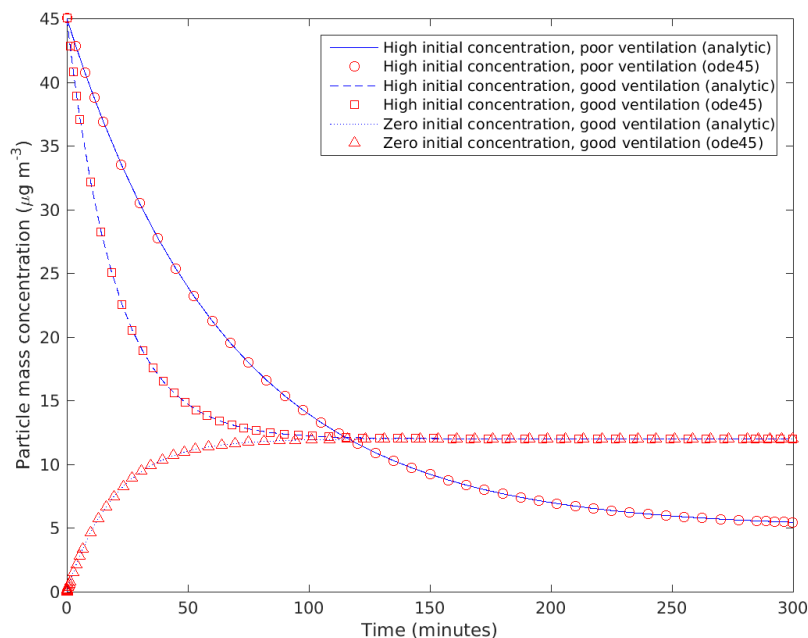

Figure 5: Figure created by the test cases of Problem 2.1 (plus a legend box).
You can test your function using the following test cases, which should produce a figure similar to Figure 5. In these test cases, we consider a 20 m^2 ($\approx 215 \text{ ft}^2$) studio with a 2.5 m ($\approx 8.2 \text{ ft}$) ceiling height, which is not ventilated very well ($Q = 0.25 \text{ m}^3 \text{ min}^{-1}$). We set the value of C_{vent} to $15 \mu\text{g m}^{-3}$. We set the initial particle mass concentration inside the studio to a fairly elevated level ($45 \mu\text{g m}^{-3}$) and see how long it takes for the indoor particle mass concentration to reach equilibrium (i.e. how much time it takes to flush out the elevated indoor particle mass concentration). We set $\beta = 0.01 \text{ min}^{-1}$ and simulate a period of 300 minutes.
- On which parameter(s) does the final particle mass concentration (i.e. $C(t)$ as $t \rightarrow +\infty$) depend? To answer this question, you can take the limit of Equation 6 as $t \rightarrow +\infty$. You can also check your answer with Figure 5.